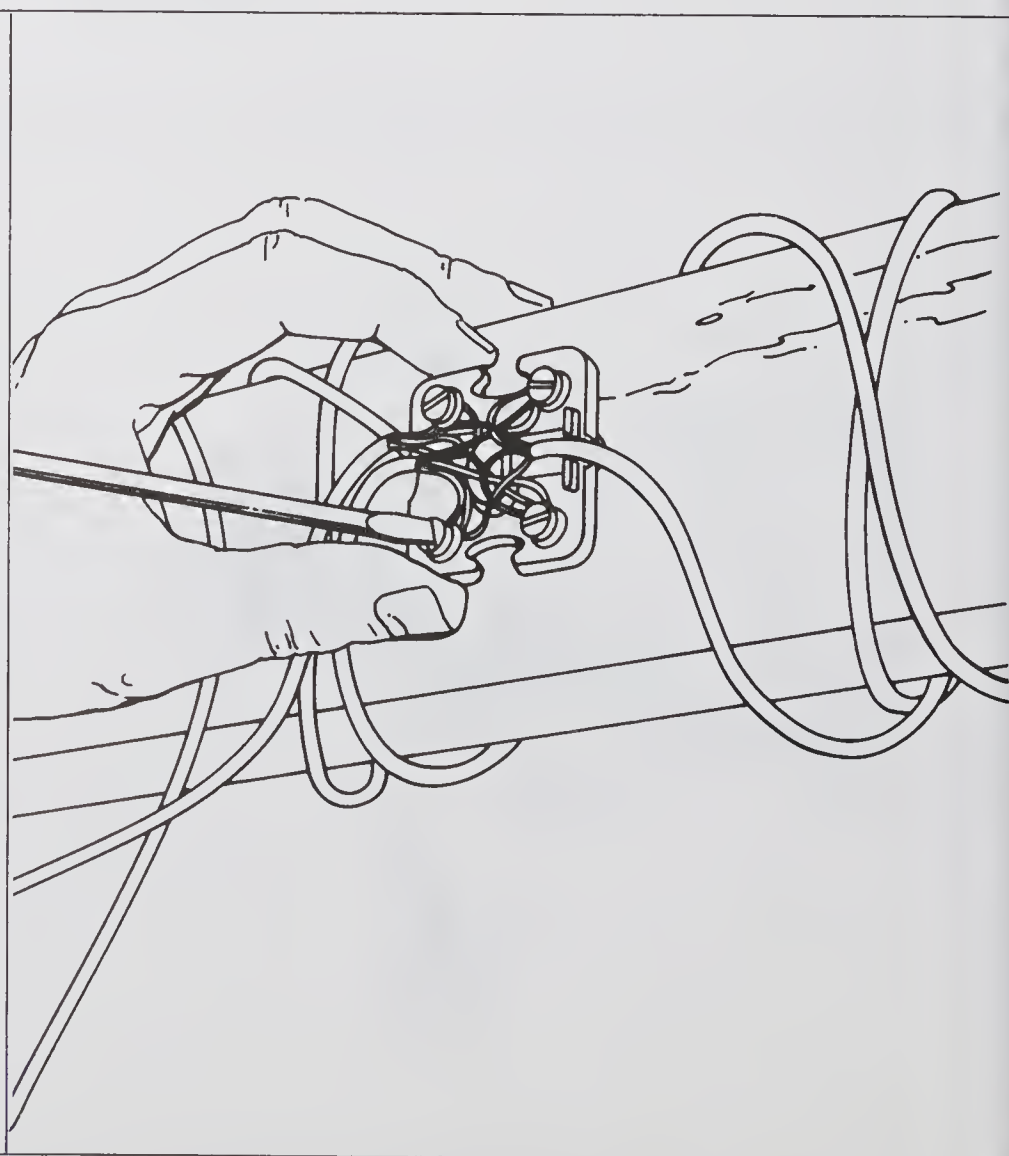

Figure 7-8.
12. Go into the attic, wrap each end of the cable from outlet X, Y and Z around the rafter used to mount the 42A block at junction W. Strip the insulation from the cable ends as in step 9 and connect the bare wires to the screw terminals of the 42A block as shown in *Figure 7-8*. Connect corresponding colored wires — red to red, green to green, yellow to yellow and black to black. Don't tighten the screw terminals as yet. The cable from junction V must still be connected.